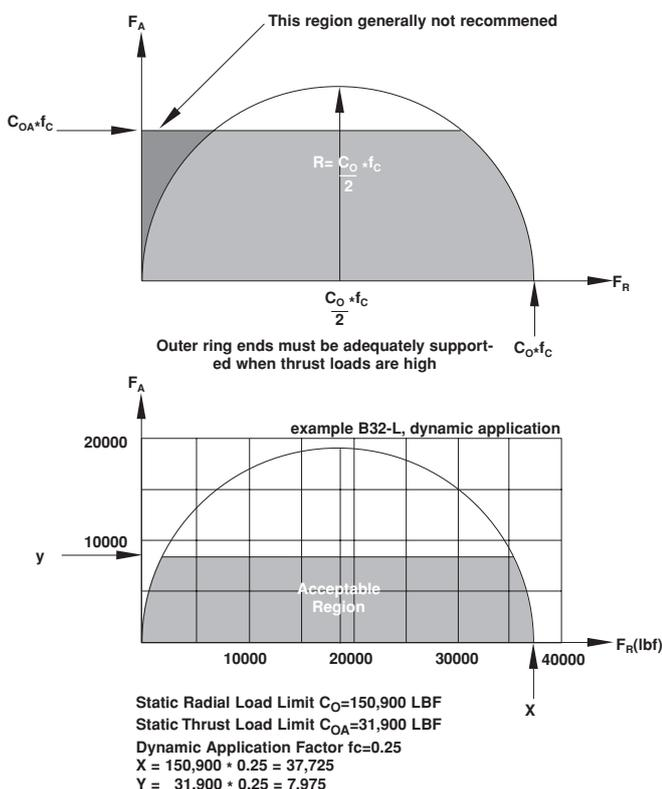

Figure 13: Radial Bearings
**COMBINATION RADIAL AND AXIAL LOADS** - To determine the acceptability of a combination radial and thrust load under static and dynamic operating conditions, diagrams of acceptable regions may be constructed for radial and angular contact bearings as shown in figures 13 - 15. Any load whose radial and thrust components plot in the hatched area is permissible. The inequalities in numerical form are as follows: